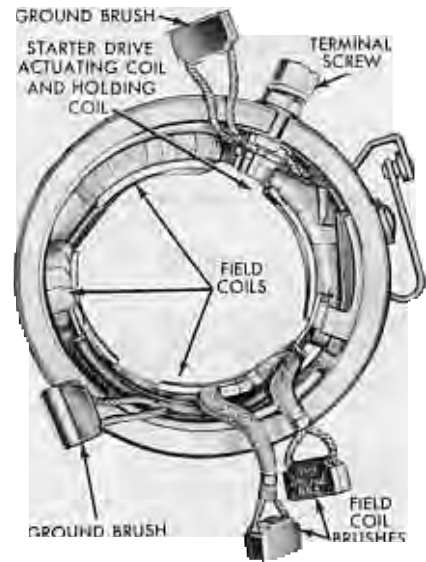

FIG. 4—Field Coil Assembly
1. Install the starter terminal, insulator, washers, and retaining nut in the frame (Fig. 4). Be sure to position the slot in the screw perpendicular to the frame end surface.
6. Position the new insulated field brushes lead on the field coil terminal. Install the clip provided with the brushes to hold the brush lead to the terminal. Solder the lead, clip, and terminal together, using rosin core solder (Fig. 4). Use a 300-watt iron.
the starter frame and install the retaining screws (Fig. 4).